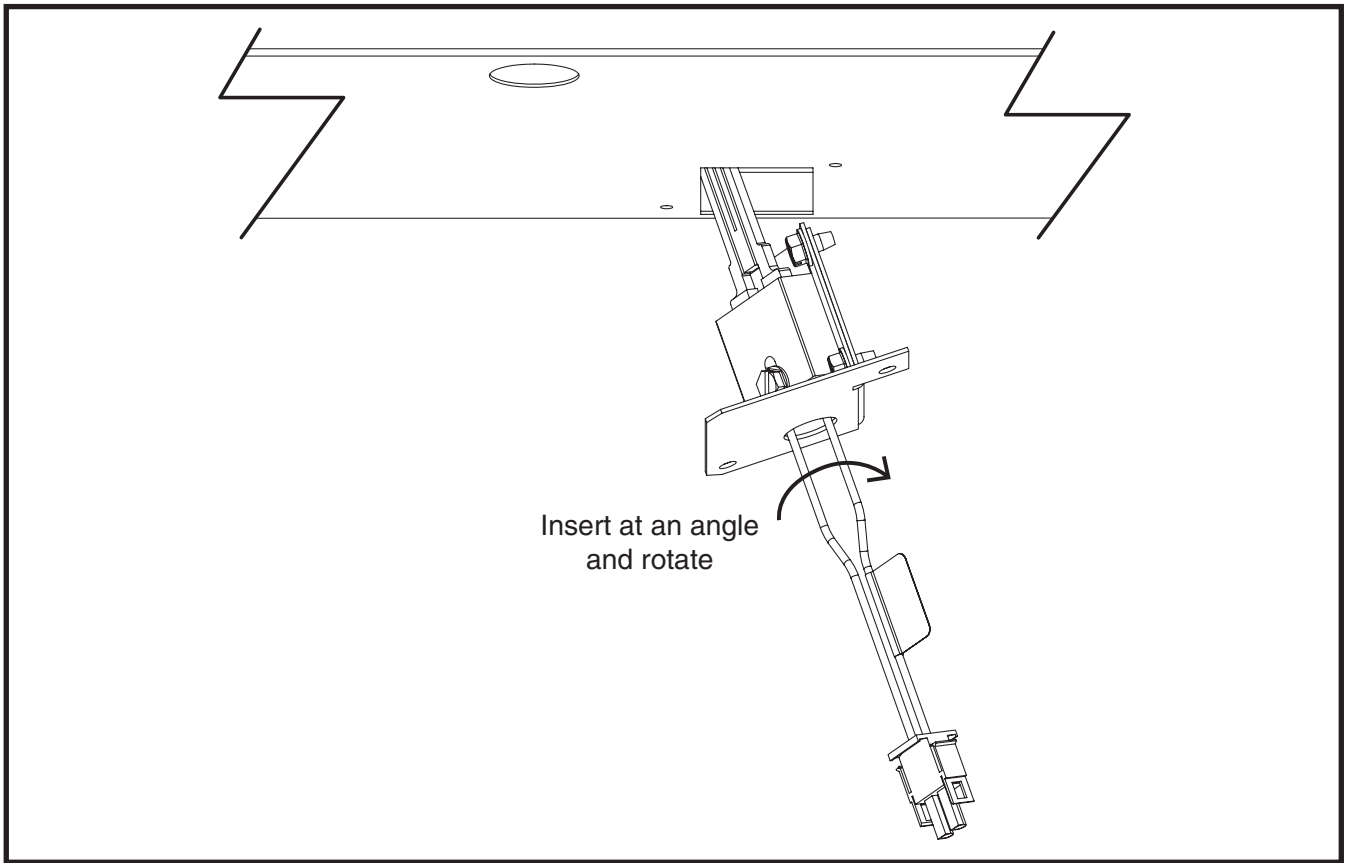

Figure 3. Insert the Assembly
2. It will be necessary to insert the assembly at a slight angle to allow the screws and igniter element to clear the opening in the burner box. Use care not to allow the igniter element to scrape the burner box. See Figure 3.